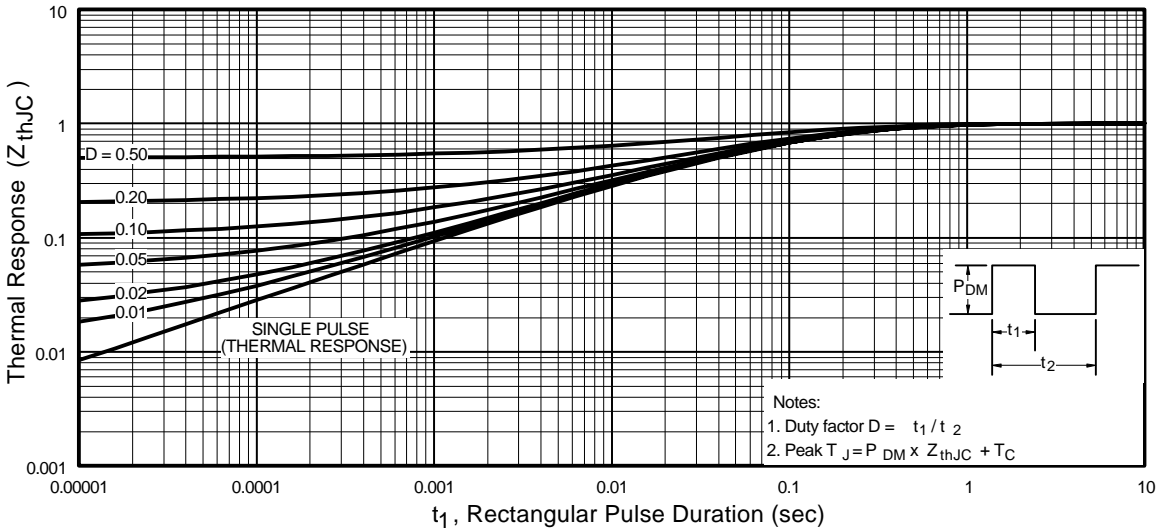

Fig 11. Maximum Effective Transient Thermal Impedance, Junction-to-Case
- ① Repetitive rating; pulse width limited by max. junction temperature. (See fig. 11)
- ② Starting $T_J = 25^\circ\text{C}$, $L = 12.6\text{mH}$